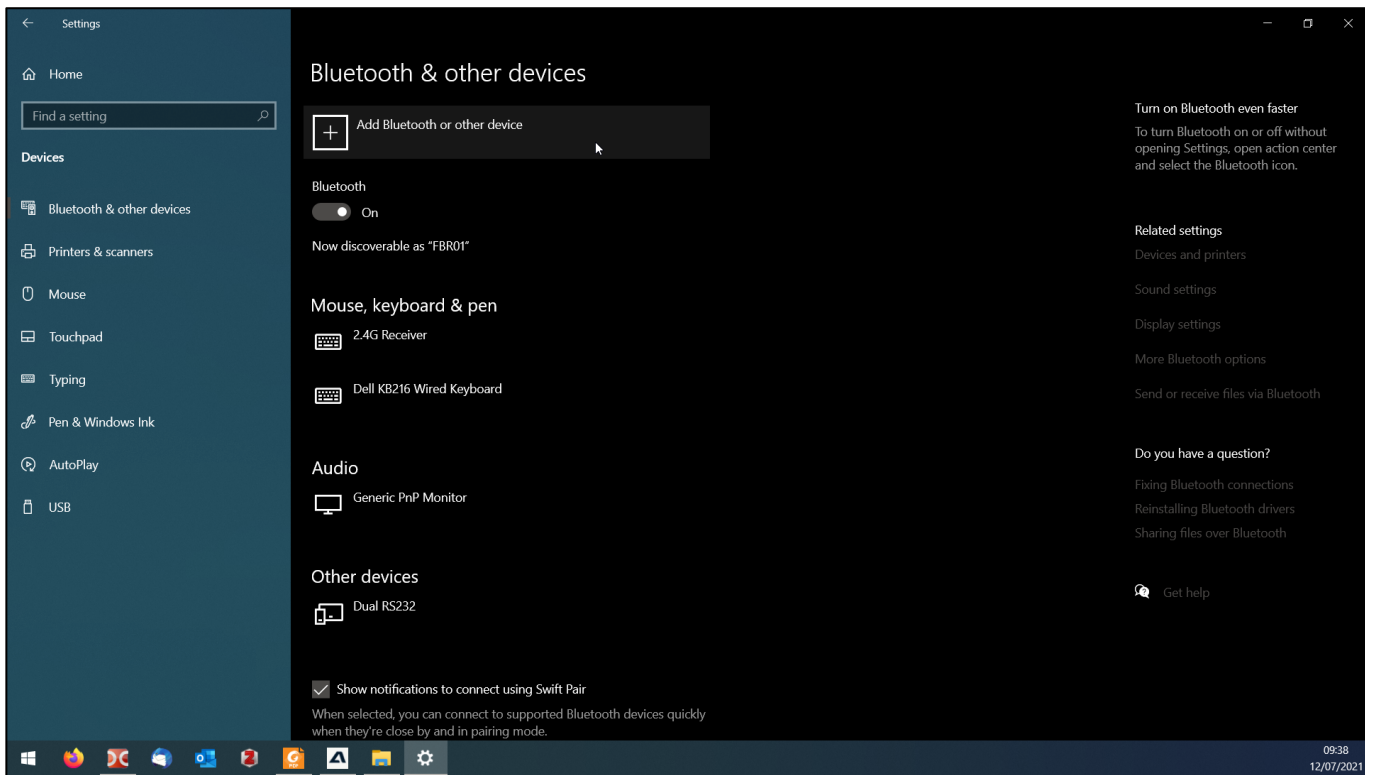
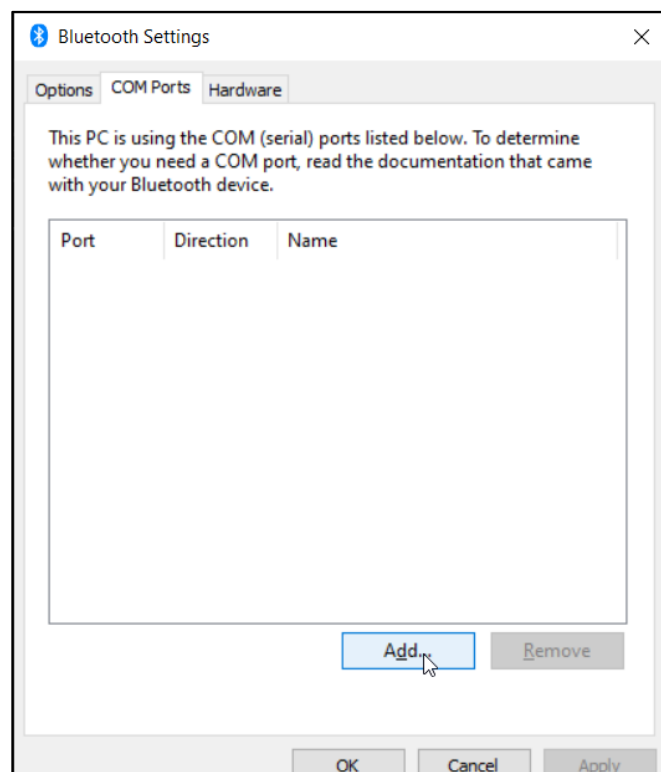

Fig. 3 Adding a Bluetooth device in Windows 10.
Fig. 8 Additional Bluetooth options in Windows 10.
3. In the Devices window, select *"Bluetooth and other devices"*, and then select the option *"Add a Bluetooth or other device"* (Fig. 3).
Correct configuration of the connection should end with the creation of two serial communication ports (outgoing and incoming COM ports). If for some reason they have not been created or there is a need to verify them, use the *"More Bluetooth options"* function (the panel on the right in the *"Devices"* window, shown in Figure 3). In the new window, select the *"COM ports"* tab (Fig. 8).